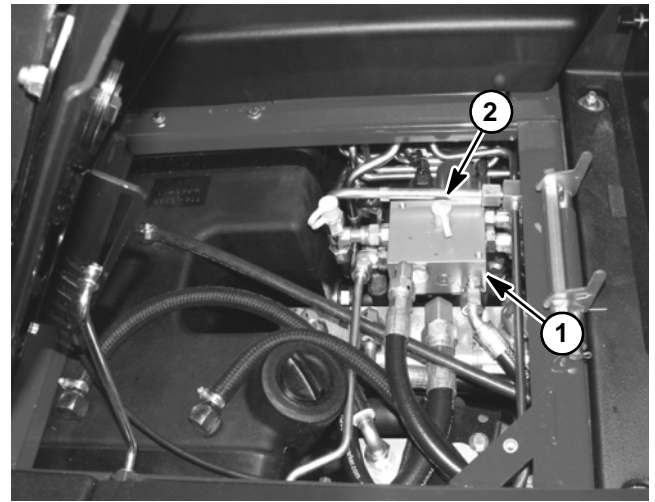

Figure 51
3. Raise seat to gain access to the fan drive manifold (Fig. 51). Connect a 5,000 PSI (345 bar) pressure gauge with hydraulic hose attached to test port on top of manifold.